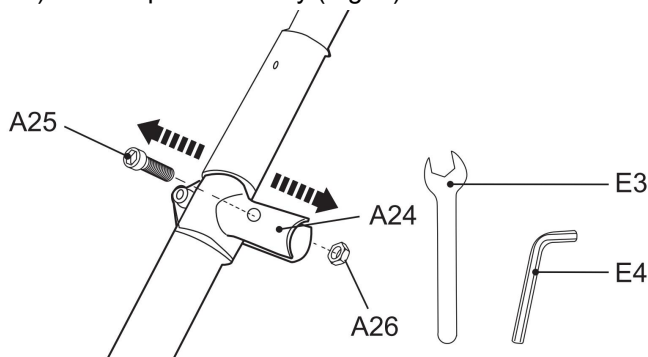

Fig. 1
1. Remove the pre-assembled bolt (A25) and nut (A26) from the handle bracket (A24) and keep them handy (Fig. 1).